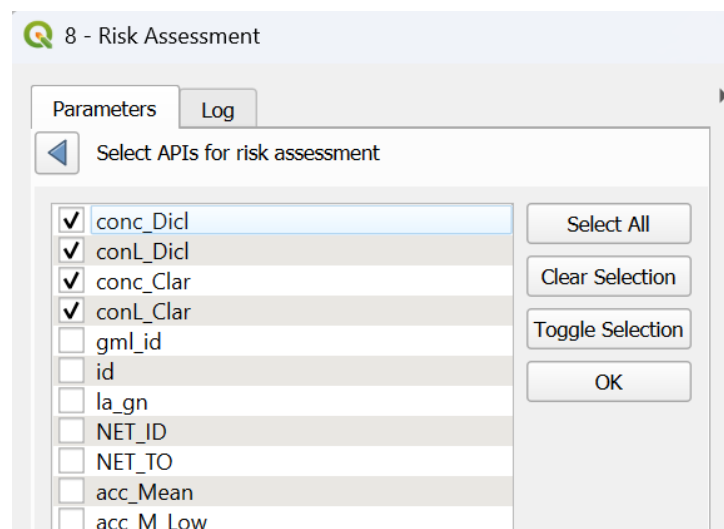

Figure 12. Configuration of Select APIs for risk assessment.
3. Select the fields containing the concentration of APIs for the risk assessment. This selection should include only columns containing concentrations in ng/L (Fig. 12)